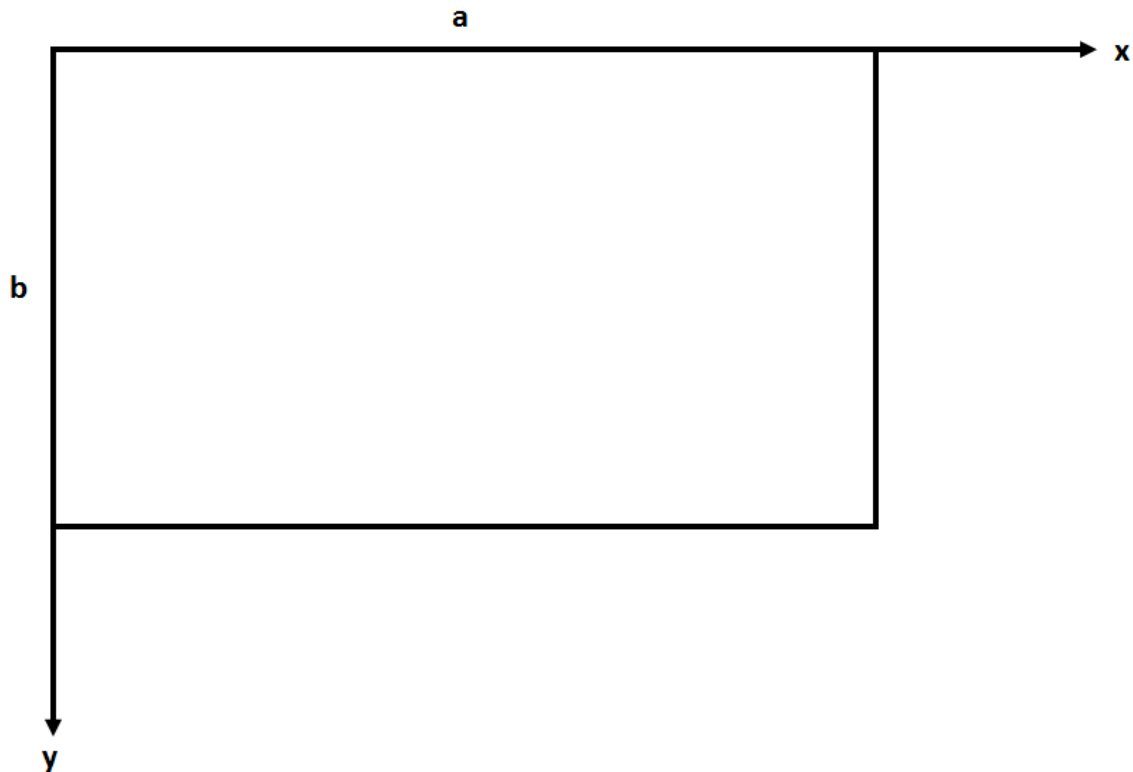

Fig. Q 3 (d)
- d. Determine the maximum deflection and bending moments of a simply supported plate as shown in Fig. Q 3 (d) due a uniformly distributed load q_0 . [12 marks]